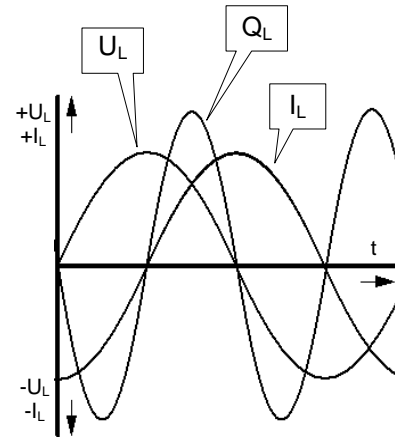

Fig. 14.4.3.2: Reactive power,  $Q_L$
- Assemble the circuit in Fig. 14.4.3.3 on the Electronic Circuits Board.